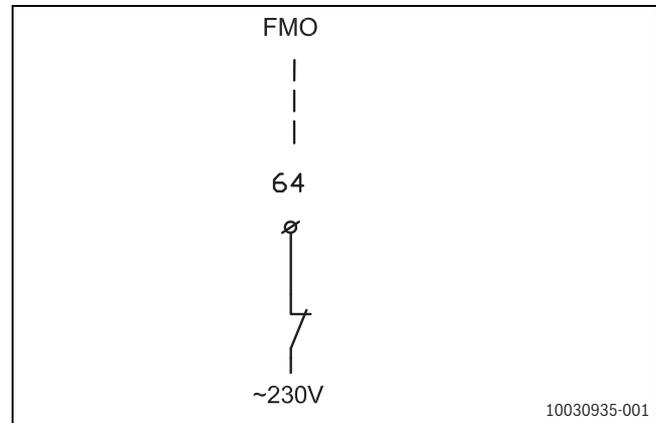

Fig. 29 Connection for external booster heater with 230 V alarm output
- ▶ Connect 230 V alarm signal (AC) as shown in figure 29 to the installer module at terminal **FMO** (→ Chapter 12.2, page 33 [26]).